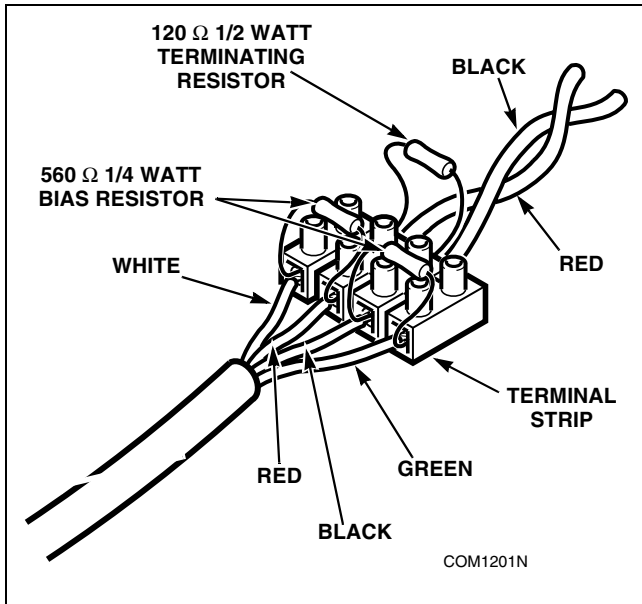

Figure 3
4. Place a 120 Ω 1/2 Watt terminating resistor and 2 560 Ω 1/4 Watt bias resistors into the terminal strip. Refer to *Figure 3*.
5. Run the wires of the network cable into the different circuits of the terminal strip and hold them in place while tightening the screws on top of the strip. Refer to *Figure 3*.
7. Place the black and red twisted pair wire into the terminal strip and hold the wires in place while tightening the screw on top of the terminal strip (connect black wire to black wire and red wire to red wire). Refer to *Figure 3*.